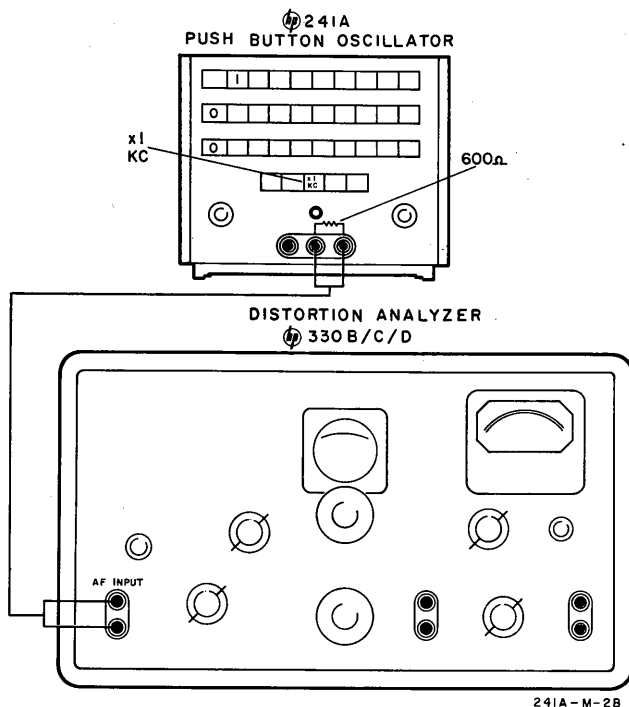

Figure 5-2. Distortion Check Setup
- a. Connect the Model 241A as shown in Figure 5-2.
- a. Connect Model 241A as shown in Figure 5-2.